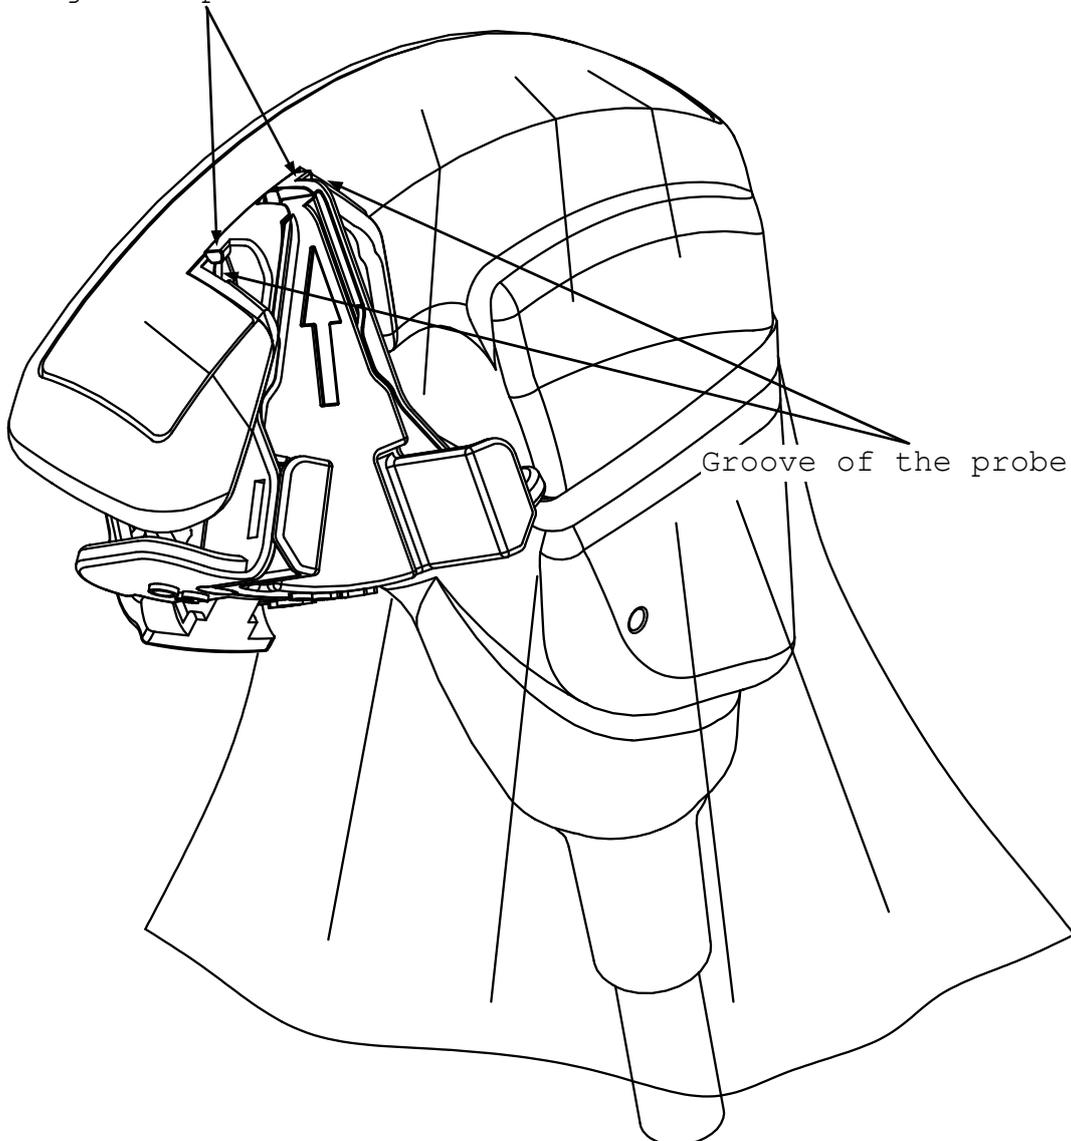

Fig.11 Mounting the biopsy attachment
- a) Place the biopsy attachment on the probe as shown in Fig. 11. Insert the projected part of the attachment into the groove of the probe on top of the probe cover.